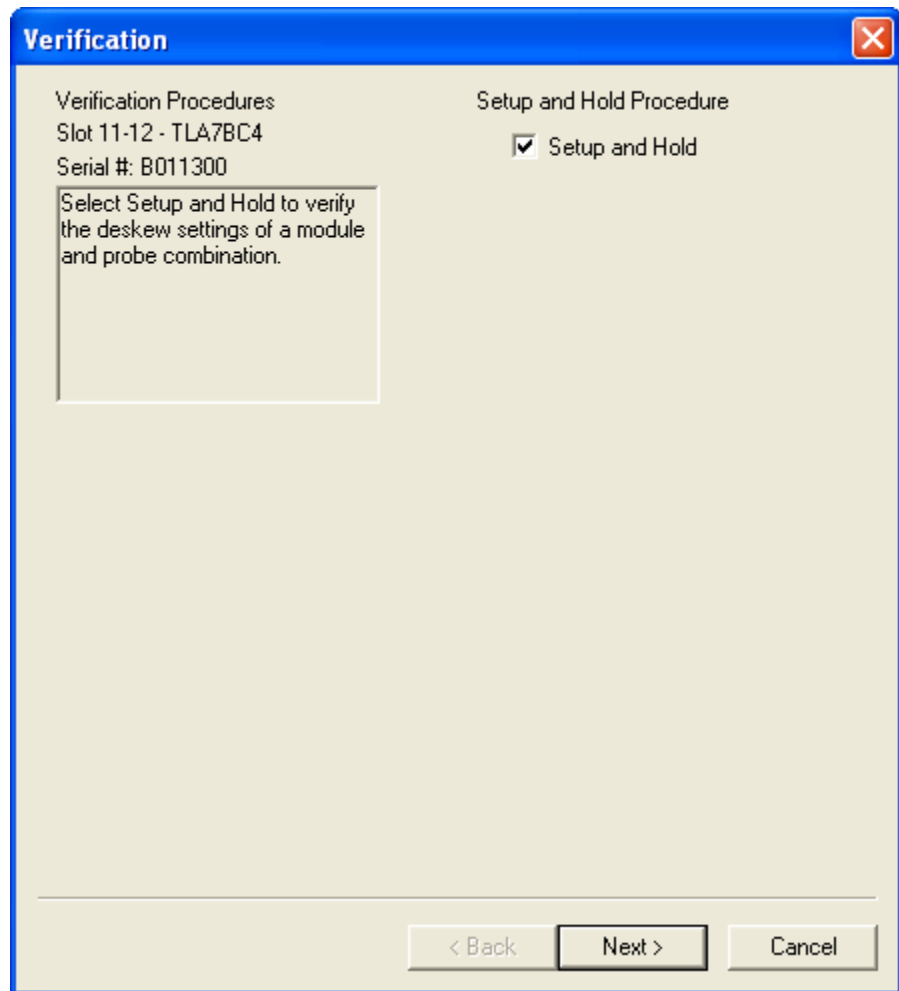

Figure 4: Verification procedure dialog box
5. Click the Verification button to start the software. The Verification procedure dialog box appears. (See Figure 4.)